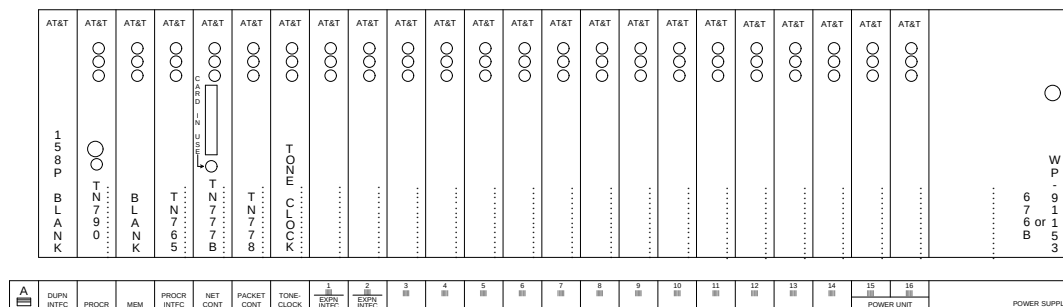

Figure 10-11. Circuit-Pack Locations in Standard-Reliability DEFINITY ECS R5si+m Enhanced Control Cabinet
1. See WARNING and NOTE. Using Figure 10-11 and the label, install the power unit and DEFINITY ECS R5si+m control circuit packs into the new enhanced control cabinet.